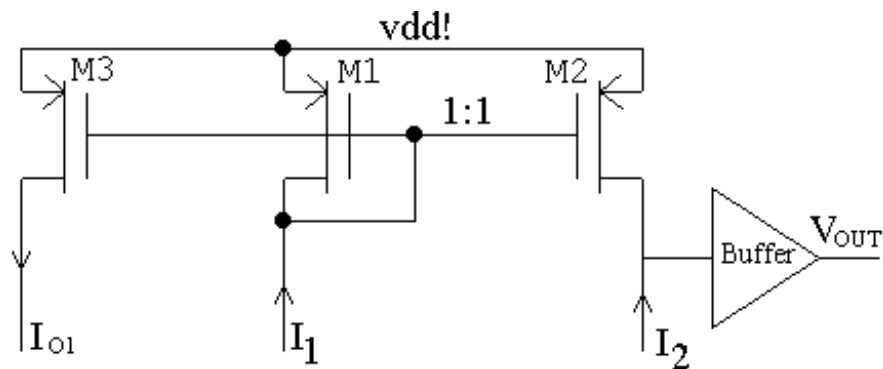

Figure 3.83 : The schematic view of current comparator.
6. To measure the DCELL's speed and the effect of refresh time on the behavior of DCELL, test block T11 was designed. T11 is constituted by the first 2 DCELL row of system DCELL matrix. Thus, it contains a DCELL matrix of size 2x18. Each row is ended by a ROW\_AMP block. To measure the speed of DCELL a simple current comparator is designed. The schematic view of current comparator can be seen in Figure 3.83.
In Figure 3.83,  $I_1$  represents the output current of ROW\_AMP of row  $i$ . Transistor M3 is added to measure the effect of refresh time. The procedure to measure it is as follows: